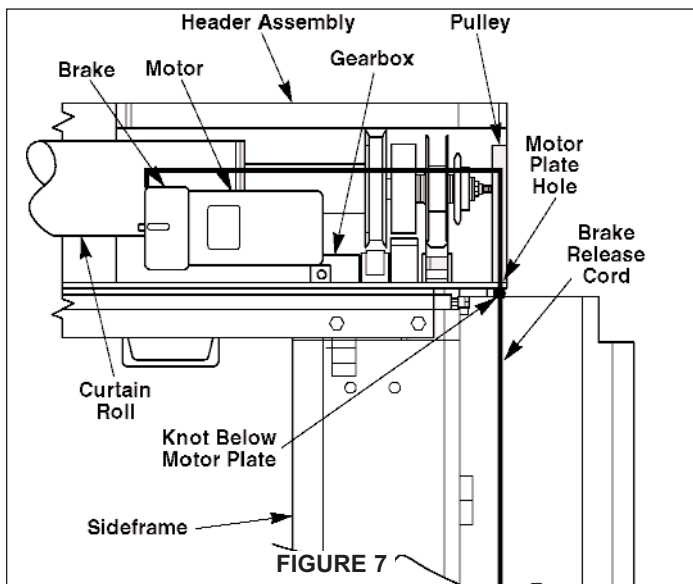

FIGURE 7
1. Untie and unwrap the white manual brake release cord from around the motor. Route the cord through the brake release pulley and down through the hole in the motor mounting plate. Tie a knot in the cord just below the mounting plate to prevent the cord from being pulled back through the hole and becoming entangled in the drive chain, **Figure 7**.